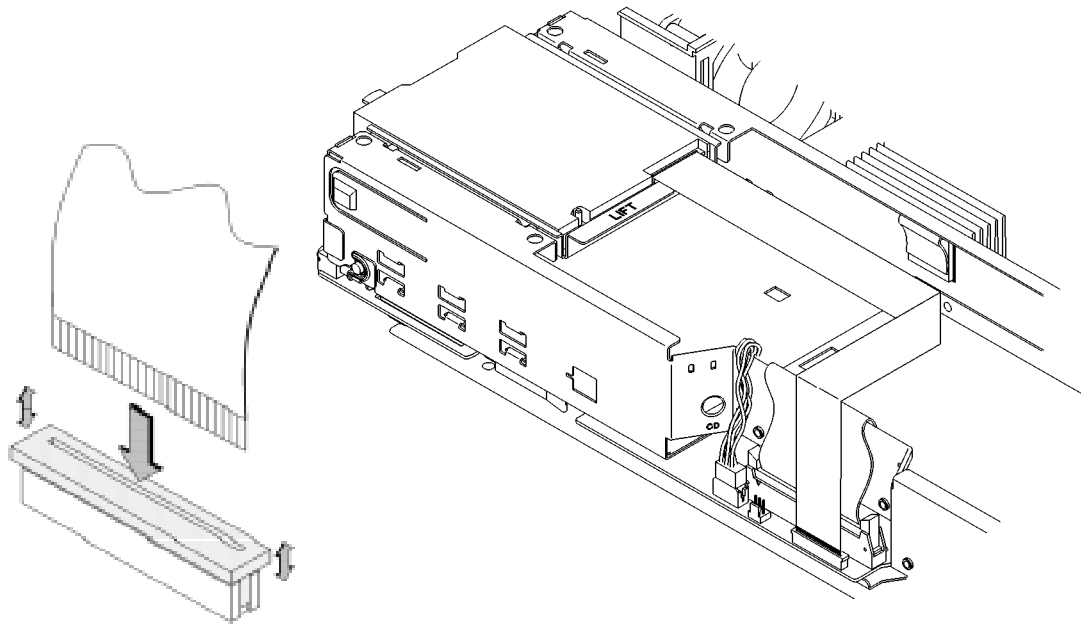

Figure 32
- 3 Connect the floppy data cable to the floppy drive and the system board as shown in, Figure 32.
When connecting the floppy data cable, use the following procedure, as shown in Figure 32: